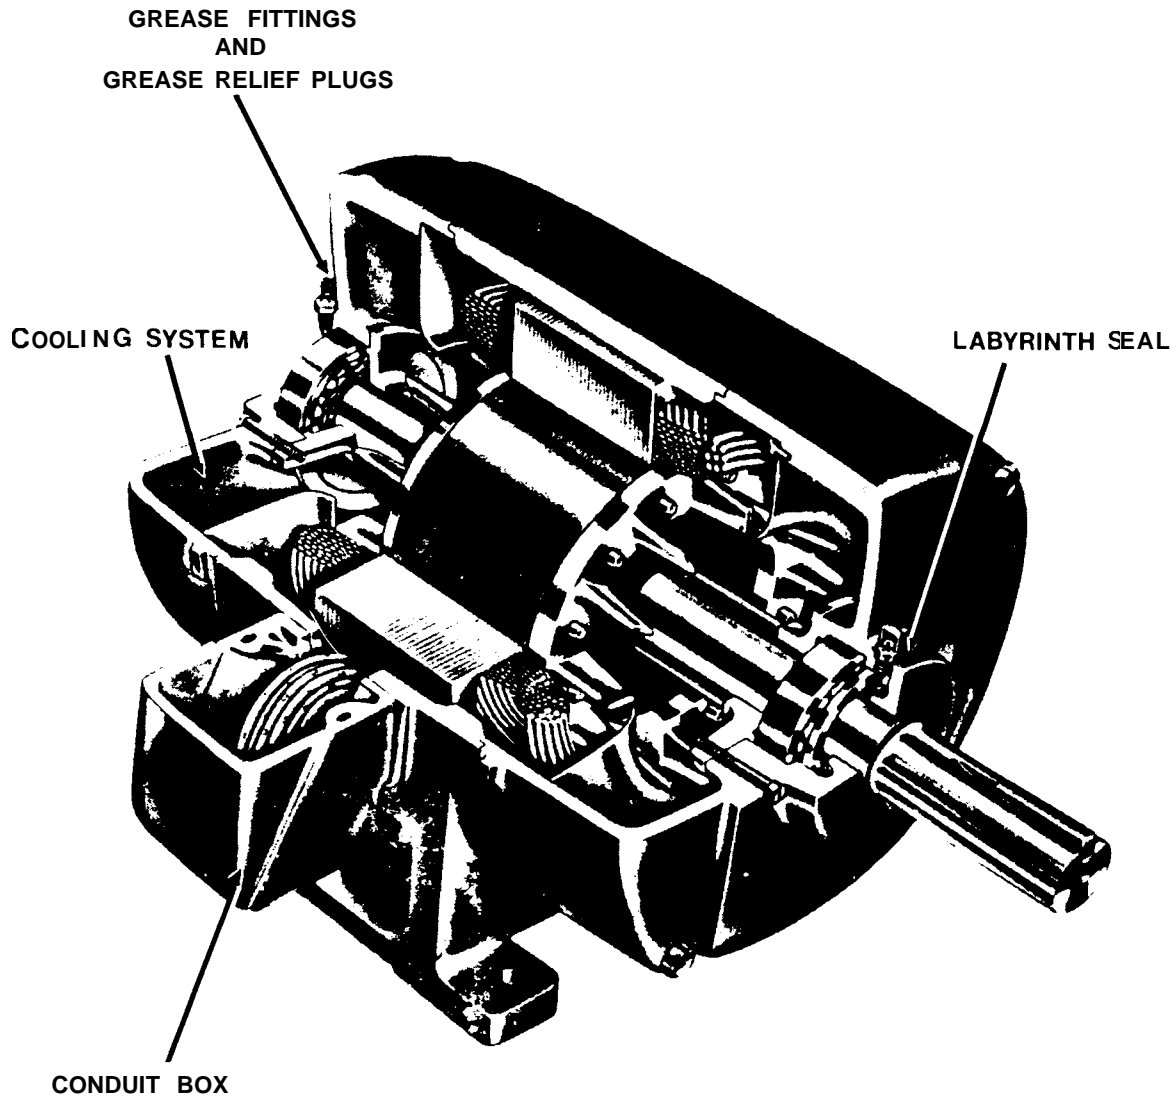

Figure 4-1. Cutaway view of squirrel-cage induction motor.
a. *Squirrel-cage induction unit.* This AC motor is the most prevalent in use at military installations (fig 4-1). The squirrel-cage motor is the most rugged and the least expensive of all types of induction motors. The squirrel-cage motor is nearly a constant speed machine. Typically its speed varies 0-5 percent from synchronous speed from no load to full load. The basic design of the rotor can be modified to provide a limited degree of external speed control.